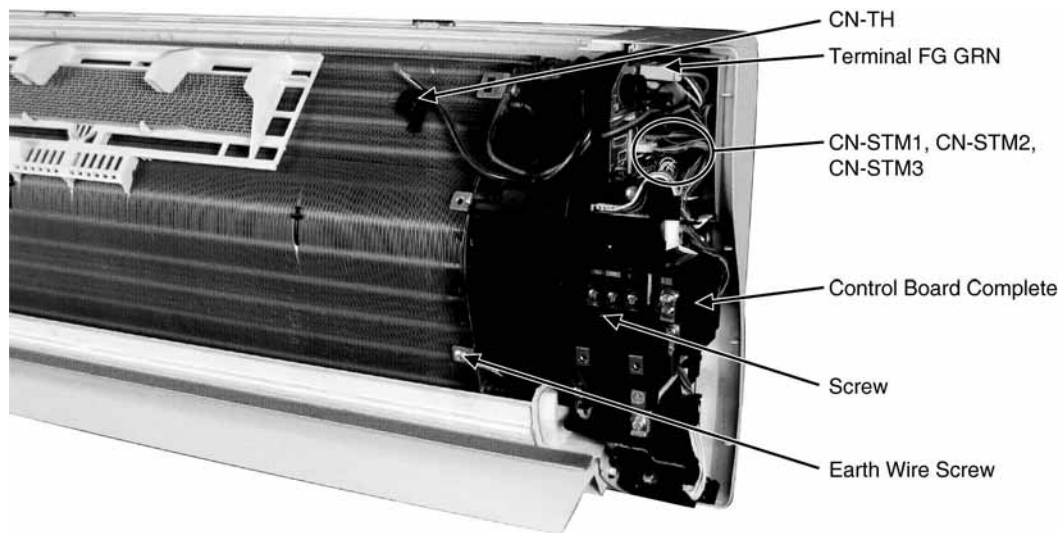

Fig. 5
2. Remove the screw at the control board then pull out the control board. (Fig.5)
3. Release CN-TH from evaporator. (Fig.5)
4. Release earth wire screw from the evaporator. (Fig.5)
5. Disconnect below connectors from PCB. (Fig.5)